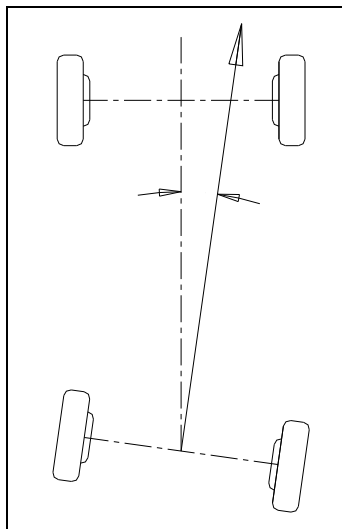

Fig.1.6
- Rear wheel driven: The thrust angle equals half of the toe-in difference between the two rear wheels. As shown in Fig.1.6.